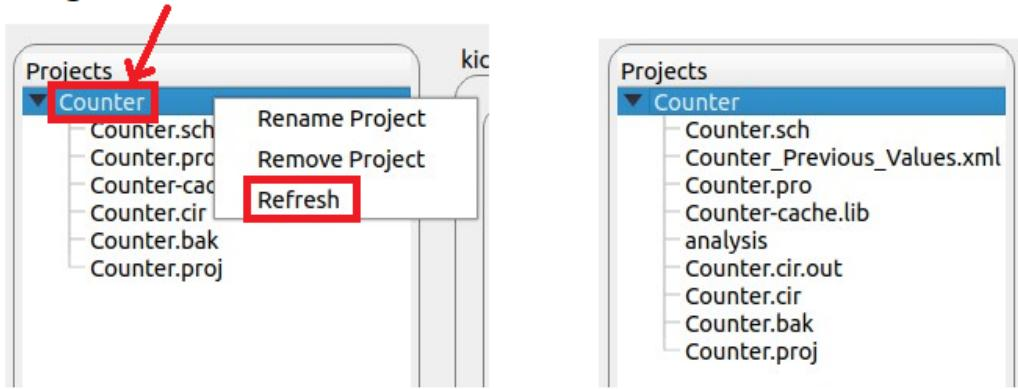

Figure 11.36: Cir.out file added after conversion
4. Next, right click on **Counter** and click on **Refresh** as shown in Fig. 11.36. It can be seen that Project_Name.cir.out file (Note: In this example, project name is Counter, so the file name is Counter.cir.out) is added after pressing refresh. Repeat this step for every rerun of KiCad to Ngspice conversion.
7. Close the simulations plots, and right click on **Counter** button and click on **Refresh** button as shown in Fig. 11.36 to update the plot data files in the Projects folder.